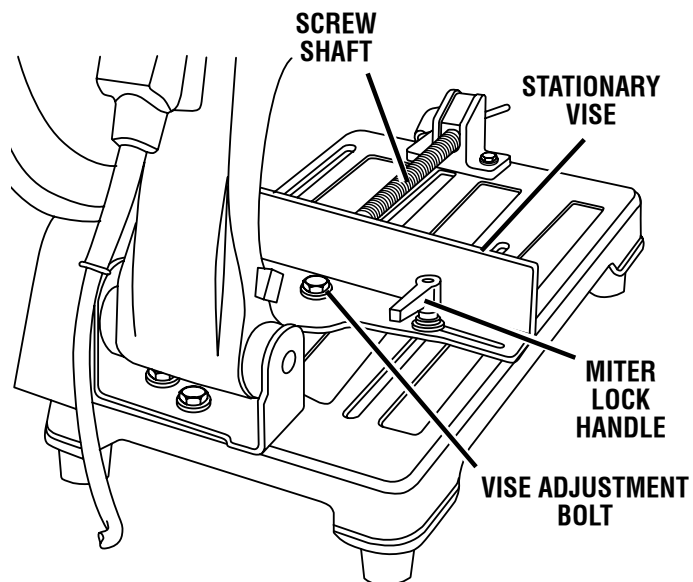

Fig. 12
See Figure 12.
See Figures 12 - 13.
- See Figure 12.